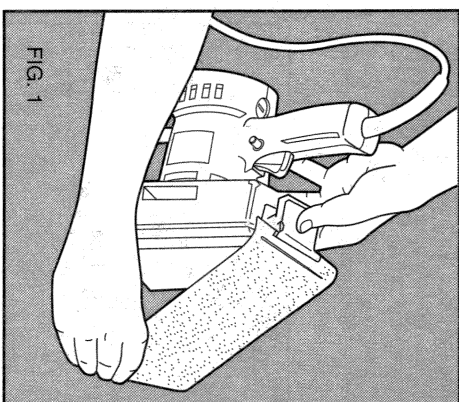

FIG. 1
1. Depress clamp and hold in open position, insert paper and release clamp, as shown in Figure 1.